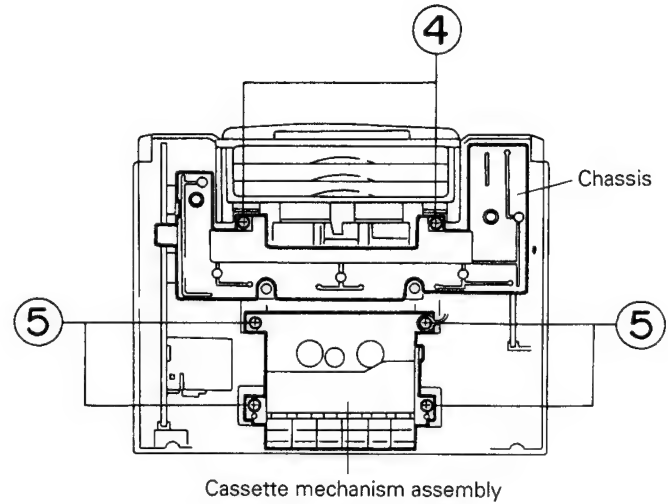

Fig. 5-6
■ **Cassette mechanism assembly** (Refer to Fig. 5-6, 5-7.)
3. Remove two screws ④ retaining the chassis to remove it.
4. Remove four screws ⑤ retaining the cassette mechanism assembly.